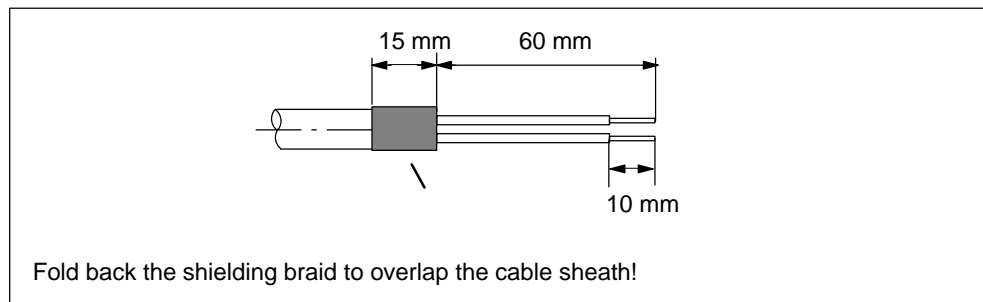

Figure 10 Stripping lengths
1. Strip the bus cable as shown in Fig 10 and fold the shielding braid back over the insulation.